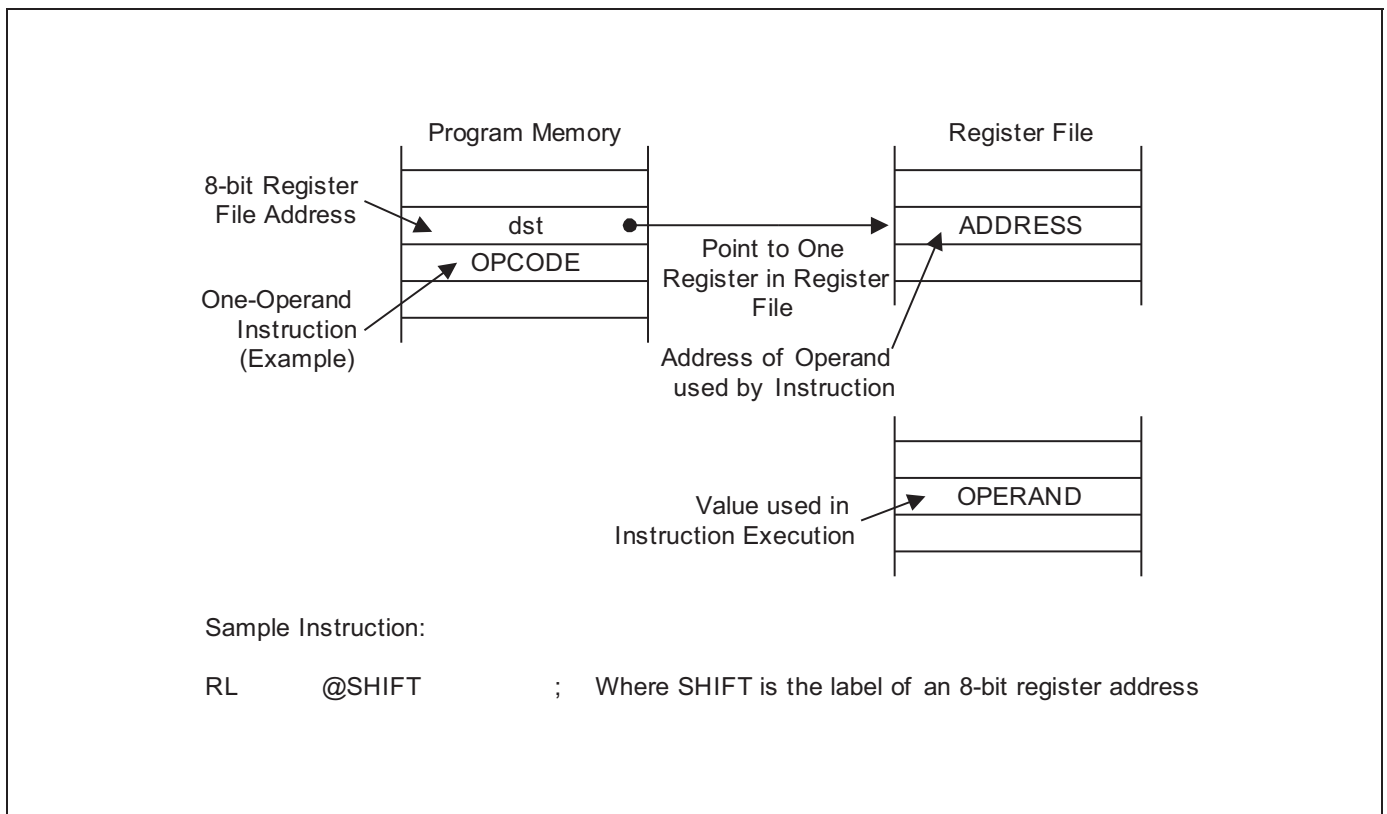
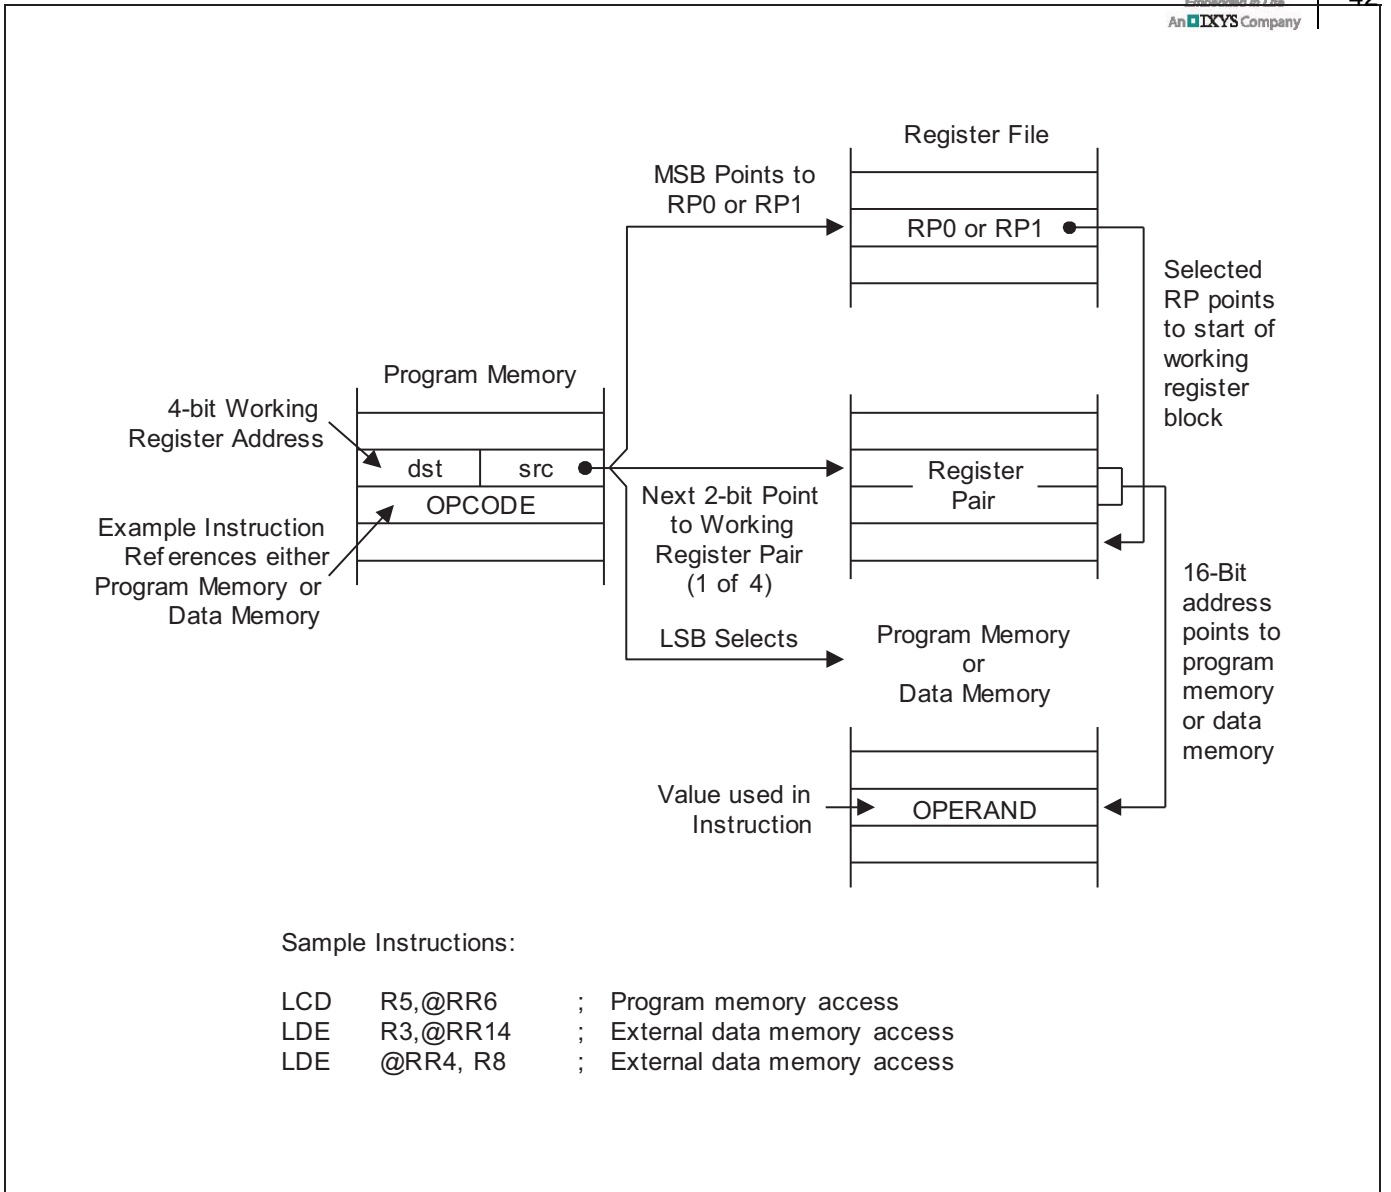

Figure 3-3 Indirect Register Addressing to Register File
Figure 3-6 Indirect Working Register Addressing to Program or Data Memory
3.3 Indirect Register Addressing Mode (IR)
In Indirect Register (IR) addressing mode, the content of the specified register or register pair is the address of the operand. Depending on the instruction used, the actual address may point to a register in the register file, to program memory (ROM), or to an external memory space. (Refer to Figure 3-3 through Figure 3-6 for more information).
Figure 3-3 illustrates the indirect register addressing to register file.
Figure 3-6 illustrates the indirect working register addressing to program or data memory.